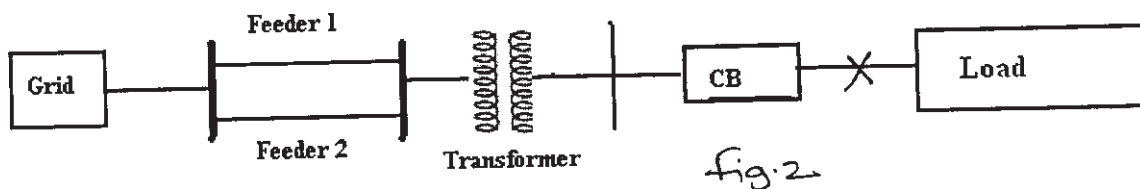

fig.2
- b) Determine the required MVA rating of the circuit breaker CB for the system shown in fig..2. Consider the grid as infinite bus. Choose 6MVA as base. [8]